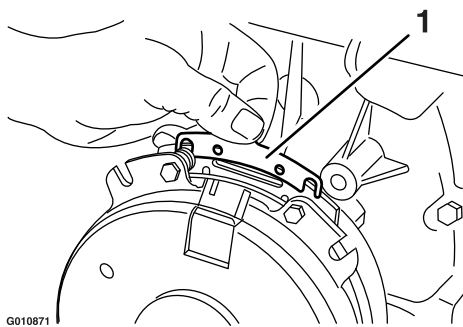

**Figure 83**
- A. Loosen both brake-mounting bolts 1/2 to 1 full turn as shown in Figure 83.